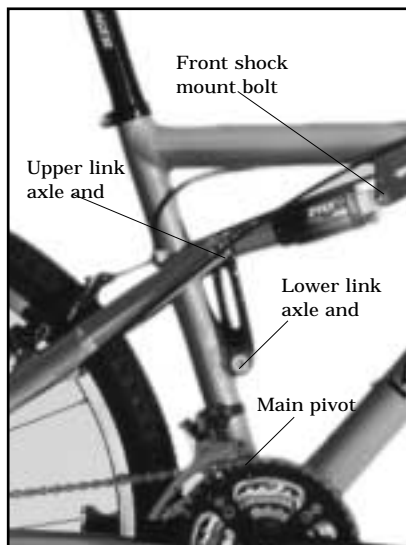

Fig. 14
1. Remove the upper link bolt and axle (Fig. 14). Be careful not to let the shock swing down and hit a frame tube.